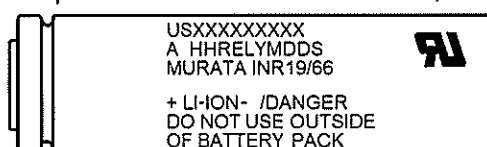
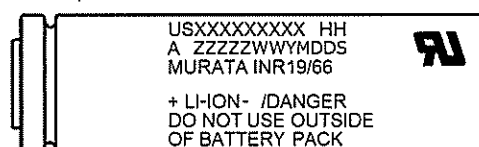

Fig.1
Fig.2
5.2 Model Name(Fig.1, Fig.2 : USXXXXXXXXXX)
5.3 Factory(Fig.1, Fig.2 : A for factory code)
【Fig.1】 K : Tohoku Murata Manufacturing Co., Ltd. Koriyama Plant.
【Fig.2】 SG or G : Murata Energy Device Singapore Pte. Ltd.
5.4 Specification(Fig.1, Fig.2 : HH for Cell Type)
5.5 Lot Number(Fig.1, Fig.2: YMDDS for Manufacturing Date of Cells)